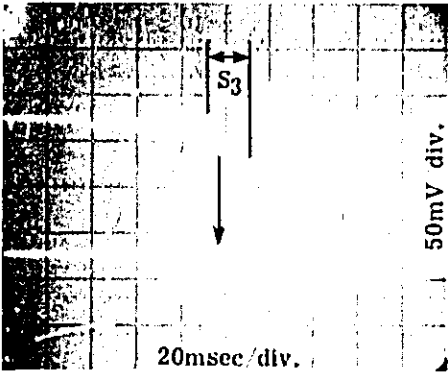

Figure 5-14. Waveform at A7TP2 (1).
- b. Adjust "G" OFFSET ADJ for as shown in Figure 5-14.